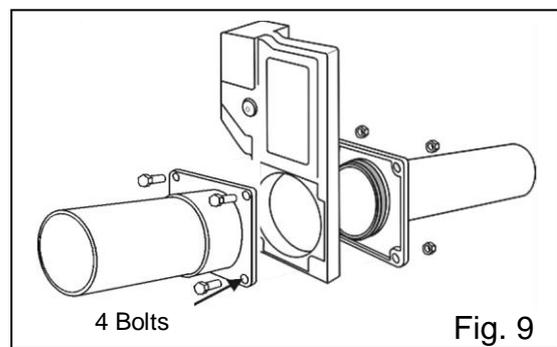

Fig. 9
Step 10: Ref **Fig. 9:** Install four bolts and nuts and **hand tighten till the valve is seated snug with no gap between the body and the flanges.** Use 7/16" Sockets/ spanners - **a Torque wrench is highly recommended. Torque from nuts side only, ¼ turn at a time, in a crisscross pattern.** Progressively increase Torque to **10 Inch Lbs. Max. Permissible is 15 Inch Lbs** if required to prevent leaks (**Step 11**). Do not exceed - components are plastic and may stress and/or crack.